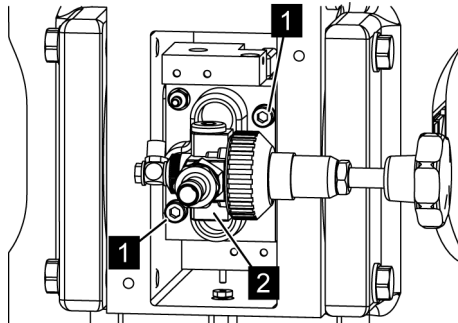

Fig. 14: Pressure controller
5. ➤ Unscrew the screws (Fig. 14/1).
6. ➤ Remove the complete unit from the pump with the pressure controller (Fig. 14/2).